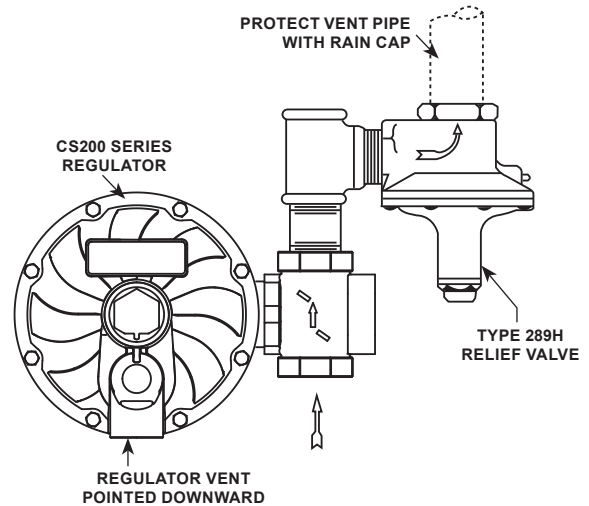

Figure 4. CS200 Series Regulator Installed with Vent Pointed Downward and with a Type 289H Relief Valve for High Capacity Relief
All vents should be kept open to permit free flow of gas to the atmosphere. Protect openings against entrance of rain, snow, insects or any other foreign material that may plug the vent or vent line. On outdoor installations, point the spring case vent downward to allow condensate to drain (see Figure 4). This minimizes the possibility of freezing and of water or other foreign materials entering the vent and interfering with proper operation.
- **Install the regulator with the vent pointed vertically down, see Figure 4.** If the vent cannot be installed in a vertically down position, the regulator must be installed under a separate protective cover. Installing the regulator with the vent down allows condensation to drain, minimizes the entry of water or other debris from entering the vent and minimizes vent blockage from freezing precipitation.
If the regulator is used in conjunction with a Type 289H relief valve, it should be installed as shown in Figure 4. The outside end of the vent line should be protected with a rainproof assembly.